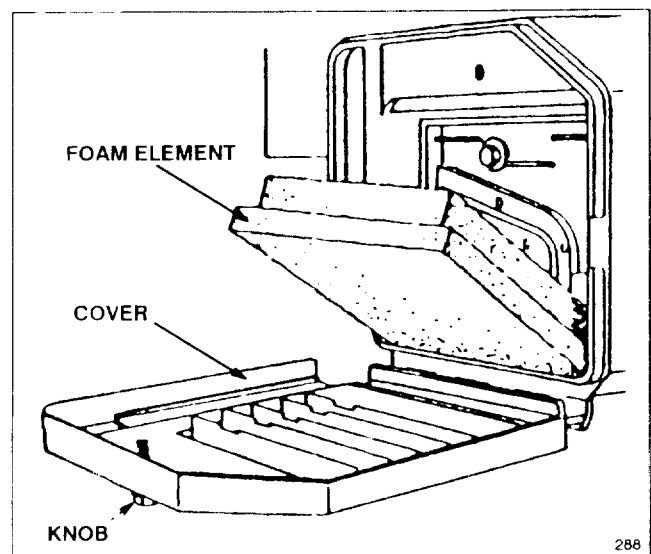

Figure 18
2. Rotate knob securing air cleaner cover to engine until cover can be removed. Clean cover thoroughly (Fig. 18).
3. If the foam element is dirty, remove it from air cleaner body (Fig. 18). Clean thoroughly.